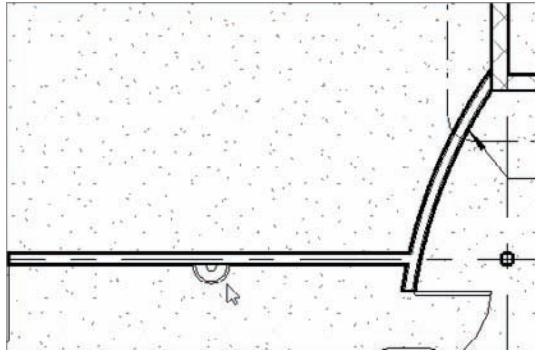

FIGURE 9.49 Adding a scribe
5. Add the sconce to the corridor wall, as shown in Figure 9.49.